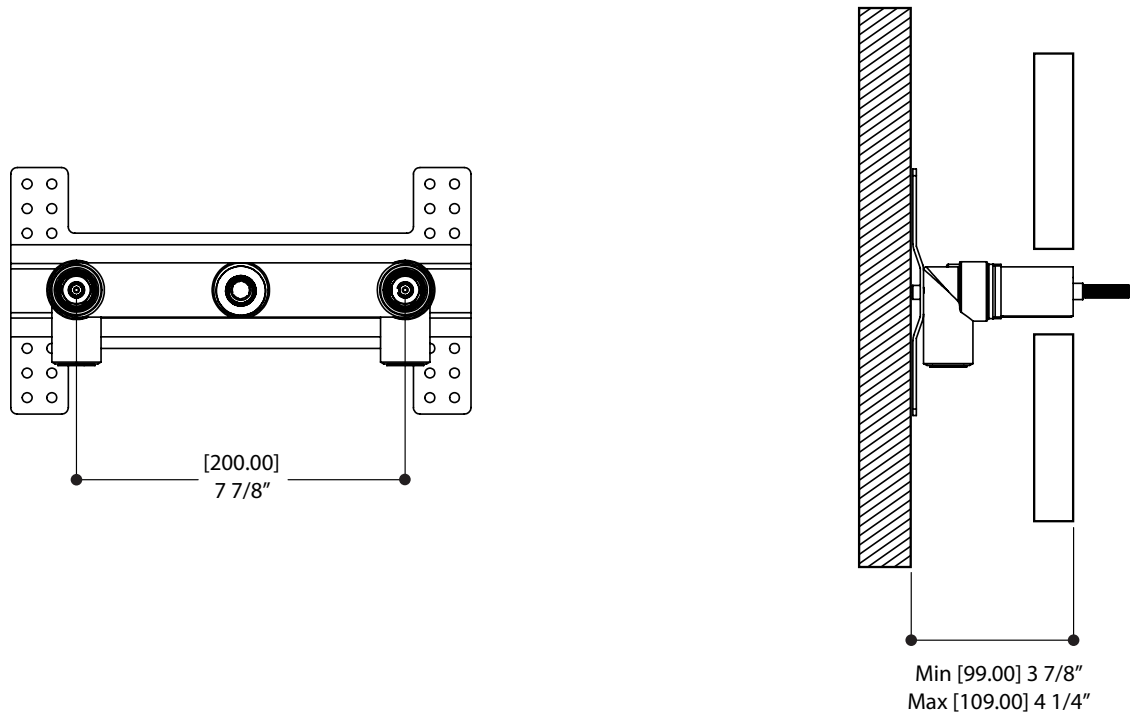
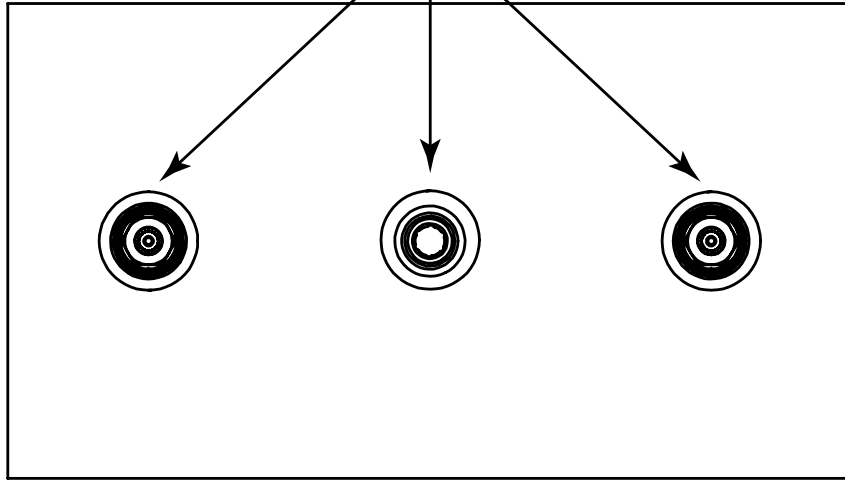

Fig. 1
Fig. 3
- Fig. 3:** Make three hole on the wall, respect the distance as show in fig. 1. The suggested diameter is \varnothing [35.00] 1 3/8" in letting the gasket lay on the wall cladding.